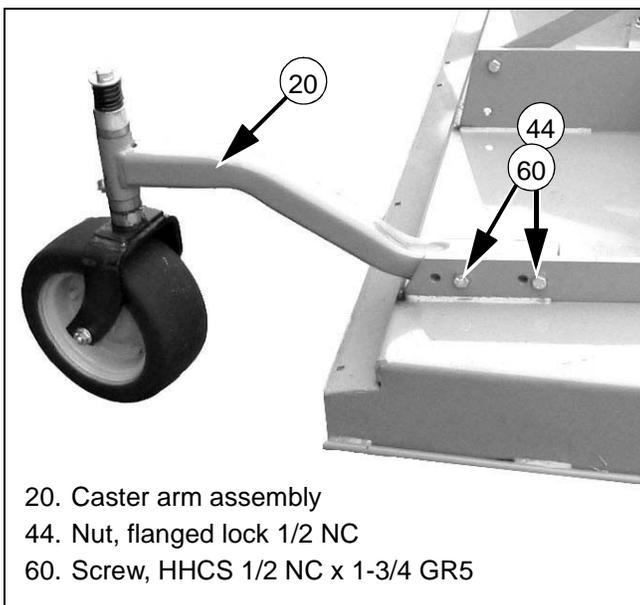

Figure 31. Rear Caster Arm Installed
1. Remove rear caster wheel assembly (20) from shipping position and install as shown in Figure 31 using the same bolts (60) and nuts (44).